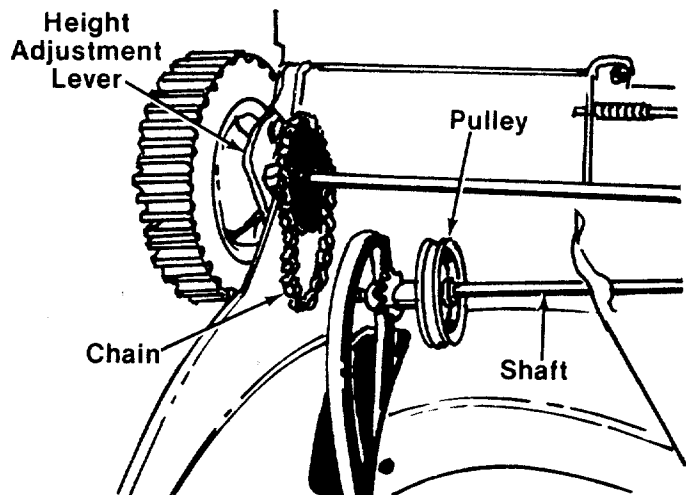

FIGURE 29.
9. Grasping the pulley, pull the pulley shaft from the deck. The chain can now be removed from the sprocket on the pulley. See figure 29.